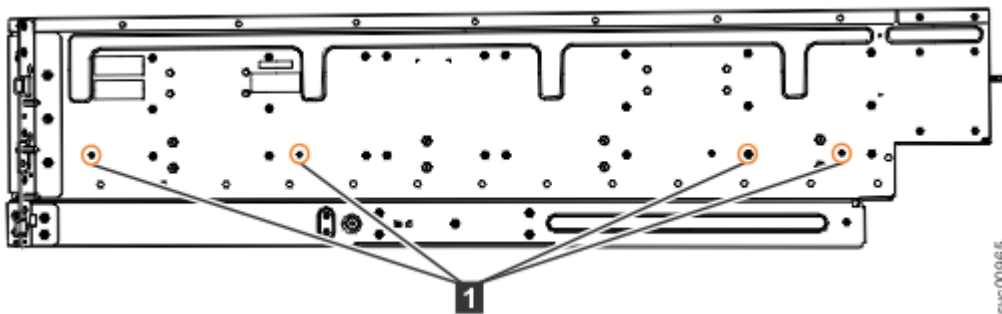

Figure 29. Screw locations to attach the inner rail to the enclosure
4. Use four M4 screws to attach the inner rail to the side of the enclosure. Figure 29 on page 27 shows the screw locations.